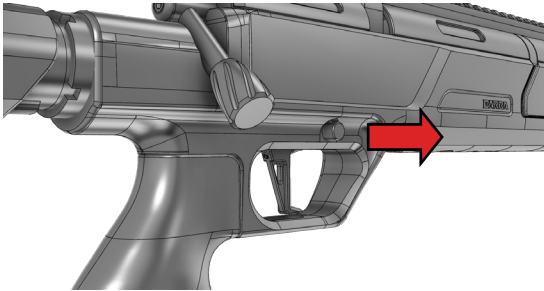

FIG 1 SAFE POSITION
- The SAFE position is when the safety is extended to the right. See arrow direction in FIG 1.